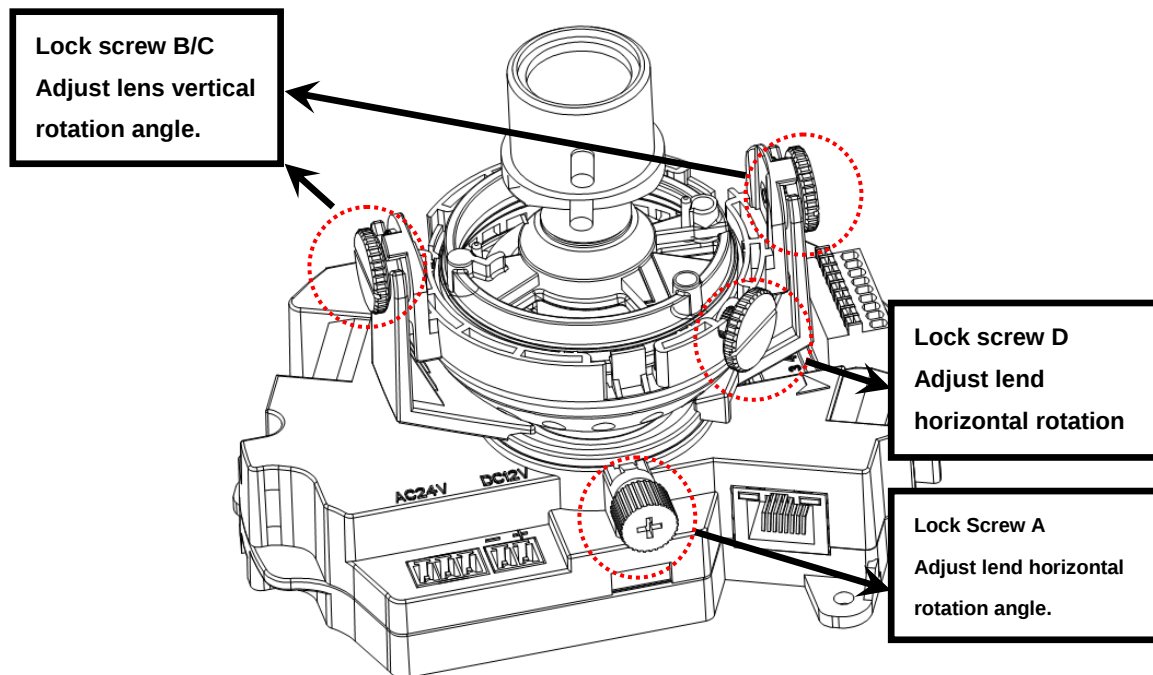

Figure 3-4 Installation 3
b) Lens horizontal rotation angle setup. Please refer to Figure 3-4 to unfasten the lock screw A and adjust the horizontal monitor angle to the proper position. Then fix the lock screw A. The horizontal angle ranges from 0° ~ $+350^{\circ}$.
c) Lens vertical rotation angle. Please refer to Figure 3-4 to unfasten the lock screw B and lock screw C and adjust the vertical monitor angle to the proper position. Then fix the lock screw B and lock screw C. The vertical angle ranges from -20° ~ $+70^{\circ}$.
d) Image horizontal rotation angle setup. Please refer to Figure 3-4 to turn lock screw D to adjust the video horizontal angle. Then fix the lock screw B and C. The video horizontal angle ranges from 0° ~ $+350^{\circ}$.
f) For the IR series product, please skip current step and complete the angle setup directly. For the non-IR series product, please put back the black plastic decoration enclosure to complete the angle setup. See Figure 3-4.
Please note Figure 3-4 is based on non-IR series camera. For IR series product, the lock screw position and the lens angle adjustment are the same.